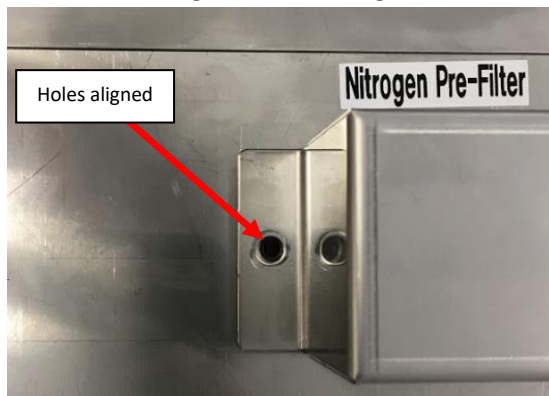
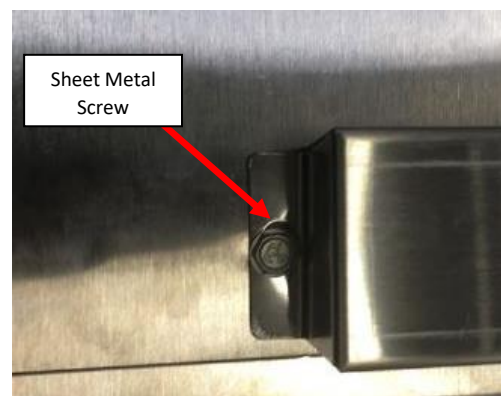

Figure L36: Hole on Left tab of the Regulator Cover Lined up with punch on the Top Wall of Rear Enclosure.
Figure L37: Regulator Cover secured in place with Sheet Metal Screw.
- b. Lay the Regulator Cover In the Rear Enclosure so the Slot on the Left tab is lined up with the hole on top of the Rear Enclosure. See Figure L36 and Figure L37.